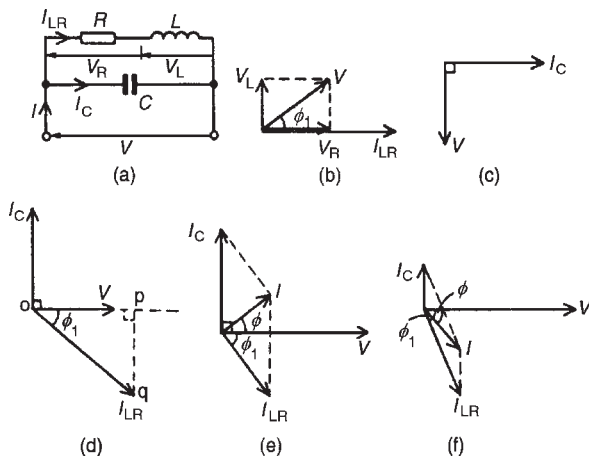

Figure 18.5
In the two-branch circuit containing capacitance C in parallel with inductance L and resistance R in series (such as a coil) shown in Fig. 18.5(a), the phasor diagram for the LR branch alone is shown in Fig. 18.5(b) and the phasor diagram for the C branch is shown alone in Fig. 18.5(c). Rotating each and superimposing on one another gives the complete phasor diagram shown in Fig. 18.5(d).
The current I_{LR} of Fig. 18.5(d) may be resolved into horizontal and vertical components. The horizontal component, shown as op is $I_{LR} \cos \phi_1$ and the vertical component, shown as pq is $I_{LR} \sin \phi_1$. There are three possible conditions for this circuit:
- $I_C > I_{LR} \sin \phi_1$ (giving a supply current I leading V by angle ϕ – as shown in Fig. 18.5(e))
- $I_{LR} \sin \phi_1 > I_C$ (giving I lagging V by angle ϕ – as shown in Fig. 18.5(f))
- There are two methods of finding the phasor sum of currents I_{LR} and I_C in Fig. 18.5(e) and (f). These are: (i) by a scaled phasor diagram, or (ii) by resolving each current into their ‘in-phase’ (i.e. horizontal) and ‘quadrature’ (i.e. vertical) **components**, as demonstrated in Problems 6 and 7. With reference to the phasor diagrams of Fig. 18.5:
Resonance occurs in the two-branch network containing capacitance C in parallel with inductance L and resistance R in series (see Fig. 18.5(a), page 364) when the quadrature (i.e. vertical) component of current I_{LR} is equal to I_C . At this condition the supply current I is in-phase with the supply voltage V .